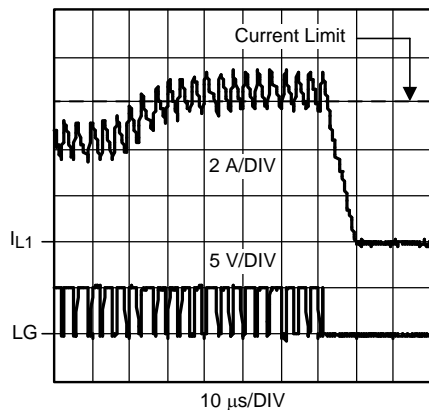

Figure 50. Entering Hiccup Mode
1. The low-side current sensing threshold has exceeded the current limit threshold for fifteen sampled cycles, see Figure 50. Each cycle is sampled at the start of each off time (t_{OFF}). The low-side current limit counter is reset when 32 consecutive non-current limit cycles occur in between two current limit events.